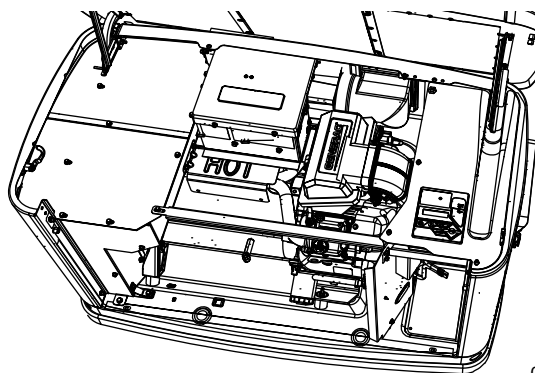

Figure 2-4. Inspect for Damage
7. See **Figure 2-4**. Once the lid is open, remove the front access panel by lifting it up and out. Also remove the black panel, indicated by the arrow, over top of the customer connection area.